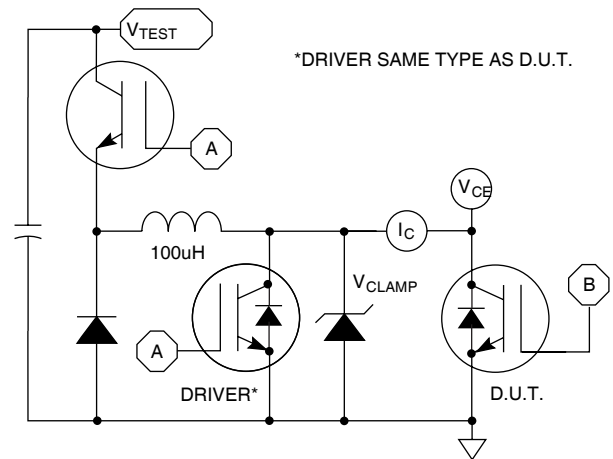

Figure 24, EON1 Test Circuit
- ① Repetitive Rating: Pulse width limited by maximum junction temperature.
- ② For Combi devices,  $I_{ces}$  includes both IGBT and FRED leakages
- ③ See MIL-STD-750 Method 3471.
- ④  $E_{on1}$  is the clamped inductive turn-on-energy of the IGBT only, without the effect of a commutating diode reverse recovery current adding to the IGBT turn-on loss. (See Figure24.)